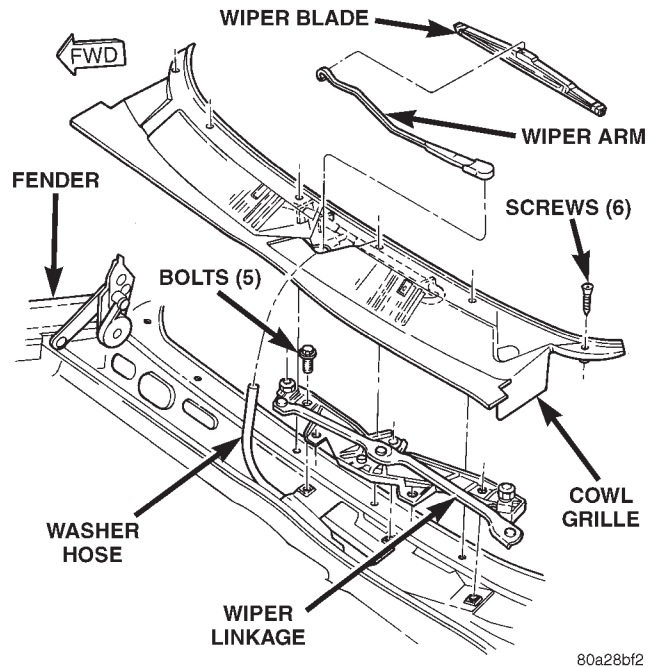

Fig. 10 Wiper Linkage Module Remove/Install
(1) Disconnect and isolate the battery negative cable.
(2) Remove the wiper arms from the wiper pivots. See Wiper Arm in this group for the procedures.
(3) Remove the screws that secure the cowl plenum cover/grille panel to the cowl top panel.
(4) Lift the cowl plenum cover/grille panel from the vehicle far enough to access the windshield washer nozzle plumbing.
(5) Disconnect the windshield washer supply hose from the tee fitting.
(6) Carefully remove the cowl plenum cover/grille panel from the vehicle and set it aside.
(7) Remove the five screws that secure the wiper module to the cowl plenum mounting bracket (Fig. 10).
(8) Move the wiper module far enough to access the wiper motor wire harness connector.
(9) Unplug the wiper motor wire harness connector from the wiper motor.
(10) Remove the wiper module from the cowl plenum as a unit.
(11) Turn the wiper module over and remove the nut that secures the wiper motor crank arm to the wiper motor output shaft.
(12) Remove the three screws that secure the wiper motor to the wiper module mounting bracket.
(13) Remove the wiper motor from the wiper module bracket.